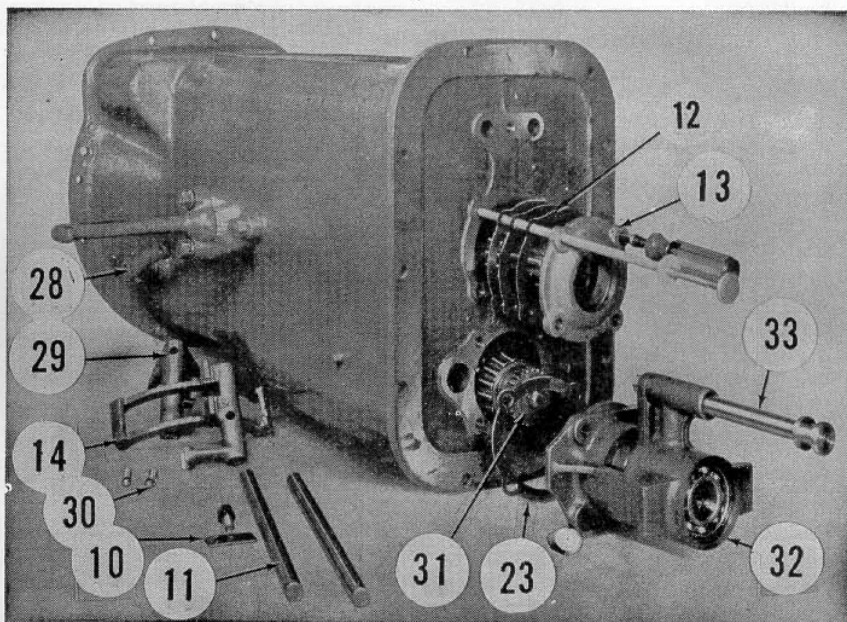

Fig. FO56—Rear end view of 2N-9N transmission showing bearing support and pto shifter detached from end wall.
75. COUNTERSHAFT. This shaft (20) may be removed after mainshaft is out and before reverse idler gear is removed. Remove power take-off shifter and bearing support as shown in Fig. FO56 and remove shifter clutch hub from end of countershaft. Remove countershaft and gear assembly. Renew worn or damaged parts and reassemble as shown. Reinstall countershaft and adjust bearings by means of shims (23—Fig. FO56) to obtain zero end play or 15-30 inch pounds torque to rotate shaft. Countershaft may be turned for checking bearings by inserting pto shaft in shifter unit and rotating the unit.